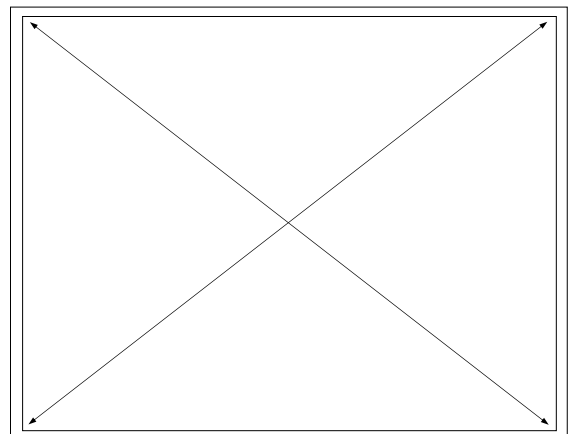

fig. 2.
Step 6: Place intermediate Roof Beams by using Roofing Nogs to determine correct position (see *fig. 2*). Nail intermediate Roof Beams in place. Nail 70 x 45mm Roofing Nogs in place (End Wall).